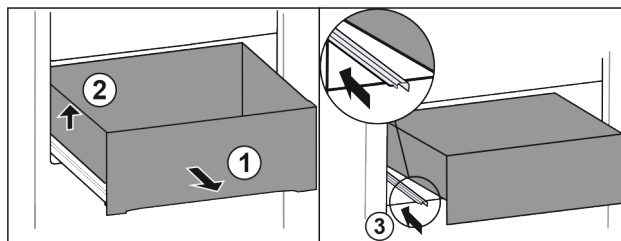

Fig. 74
- ▶ Pull out drawer as far as it will go. Fig. 74 (1)
- ▶ Lift drawer on the left. Fig. 74 (2)
- ▶ Slide in left rail. Fig. 74 (3)